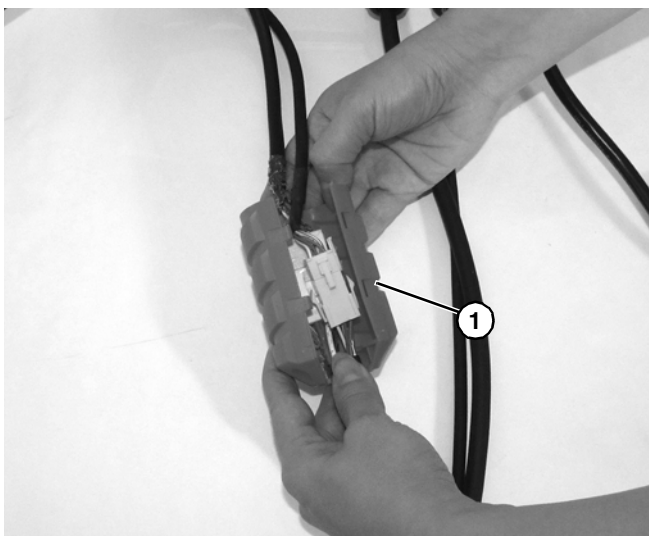

Figure 25
3. Open inner cord cover (**Figure 25, item 1**).